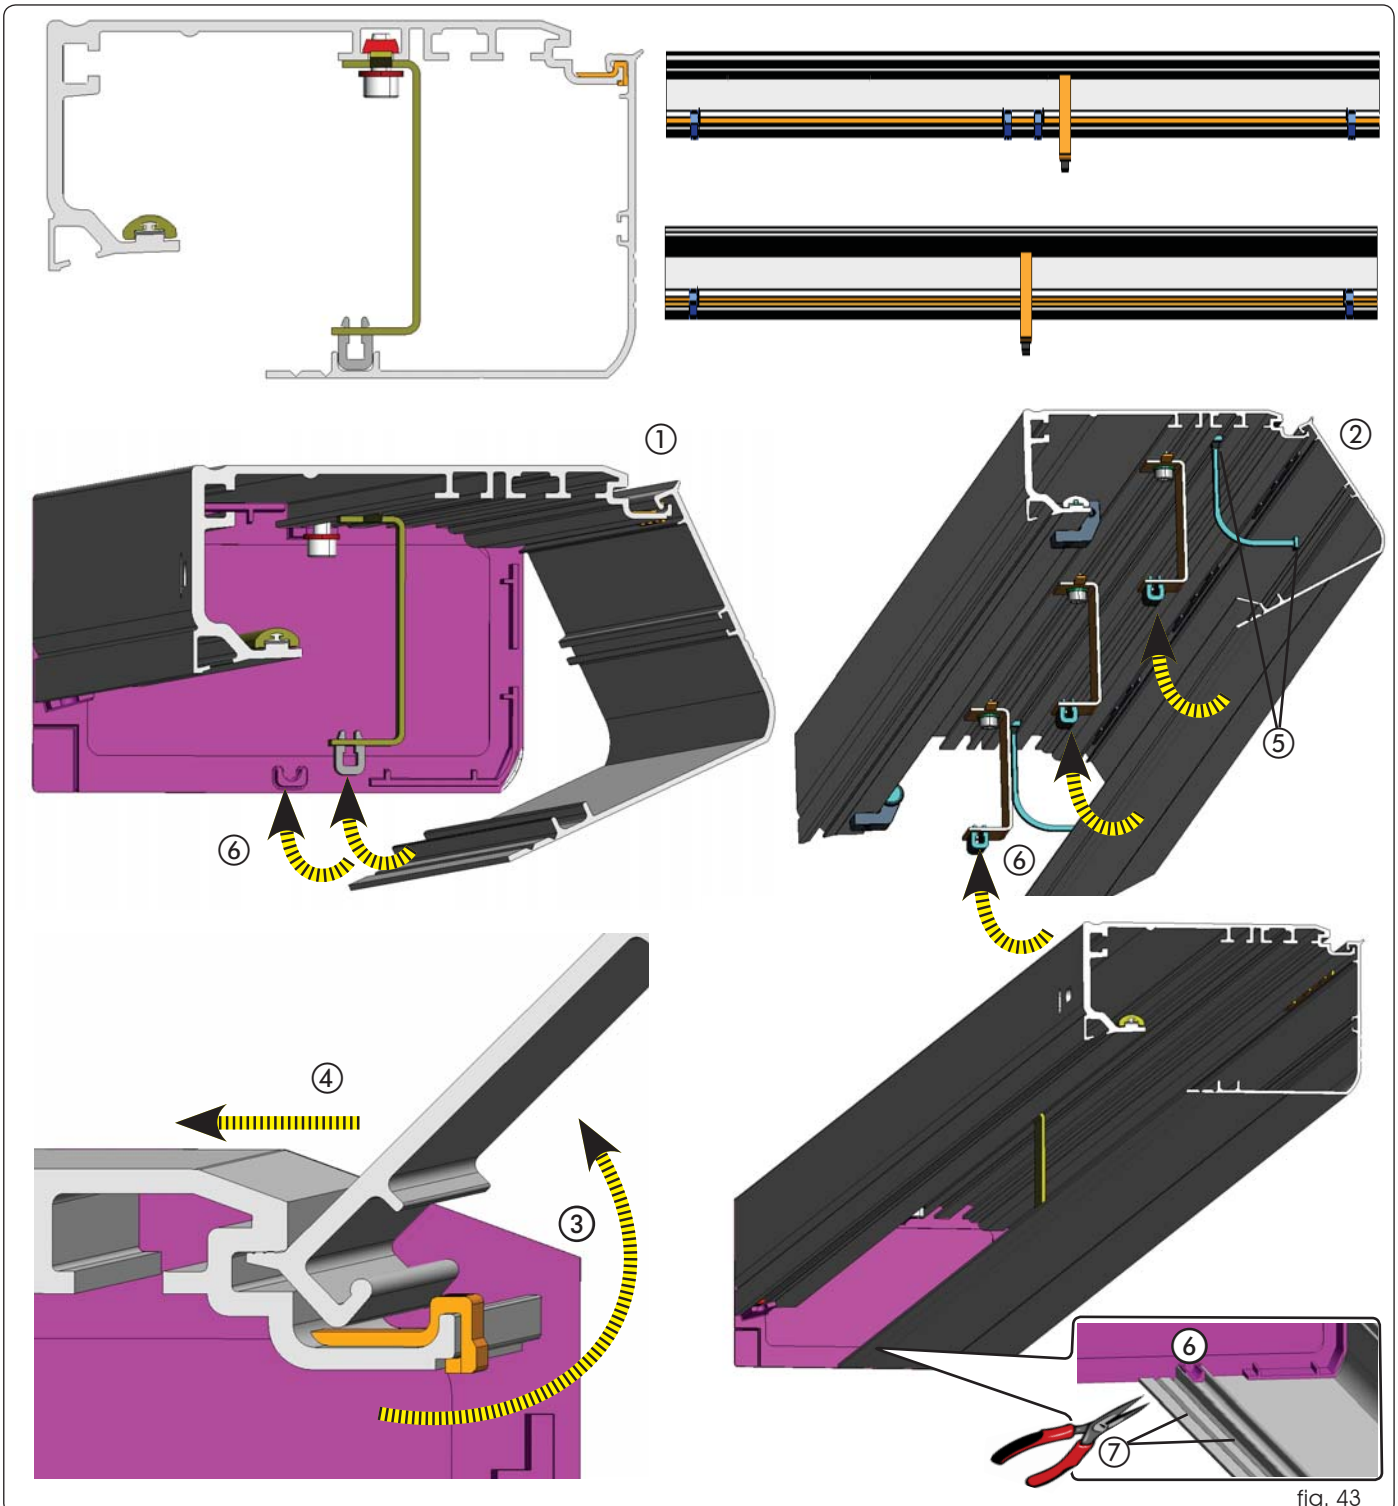

fig. 43
- Lay the closing housing on the spacers you had previously mounted, as shown in Fig. 43 ① or ②.
- To keep the housing open, lift it (Fig. 43 ref. ③) and push it (Fig. 43 ref. ④) toward the profile until the metal protrusion fits in the profile seat.
- Secure the parachute cables in the appropriate seats (Fig. 43 ref. ⑤)
- The closing housing is locked in line with the two side panels and the central plate or the fixing brackets (Fig. 43 ref. ⑥)
- The closing housing is pre-marked to adapt it to different leaf thickness values. Eliminate excess profile by cutting at the points indicated in fig. 43 ref. ⑦.